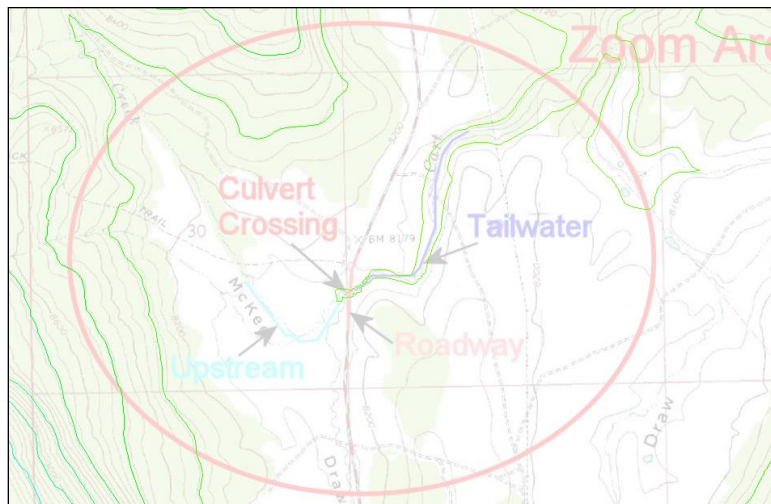

Figure 1 Zoom area
The project should appear similar to Figure 1.
If desired, feel free to change the transparency of the “CartCreekTopo.tstopo.web.jpg” to make the arcs created in the next section easier to see. The transparency is set to 80% in Figure 1.
3. In the graphics window, create an arc along the highlighted “Roadway” area (Figure 1) from south to north (upstream to downstream). Double-click to end the arc.
5. In the graphics window, create an arc for the culvert crossing as indicated in Figure 1 from left to right (upstream to downstream). Be sure to start and end the culvert far enough away from the roadway arc to prevent the culvert nodes snapping to the roadway centerline arc.